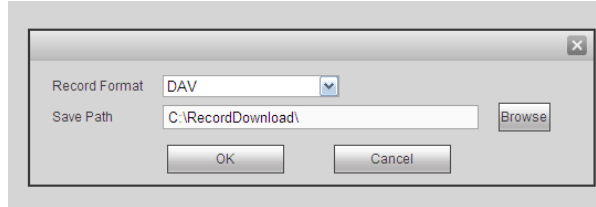

Figure 5-183
1. Click Download to local, system pops up the following interface to set record format and saved path. See Figure 5-183.